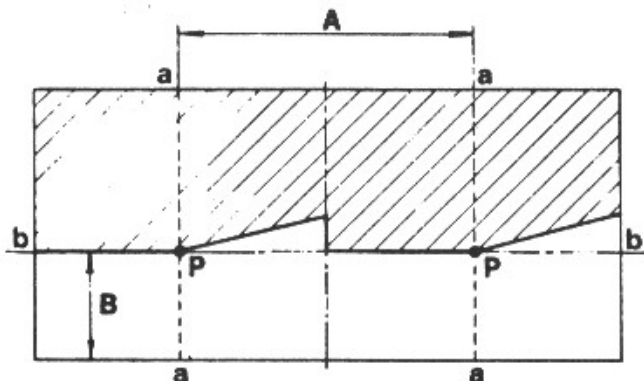

Fig. 106 Diagram for the Alignment of Headlights
On the vertical surfaces (fig. 106), trace two vertical lines at distance  $A = 1255$  mm. corresponding to the interaxis of the lights; these lines must be equidistant perpendicularly, and vertical at the car's longitudinal axis.
--the demarcation line between the dark and lit area is on line b-b (fig. 106).